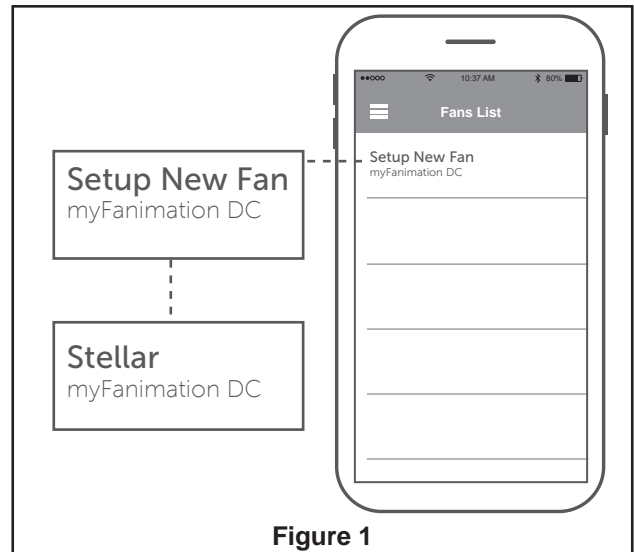

Figure 1
1. Open the fanSync app and tap the new fan to begin setup. (Figure 1)
- 1. Installing Wall Holder:** (Figure 1)